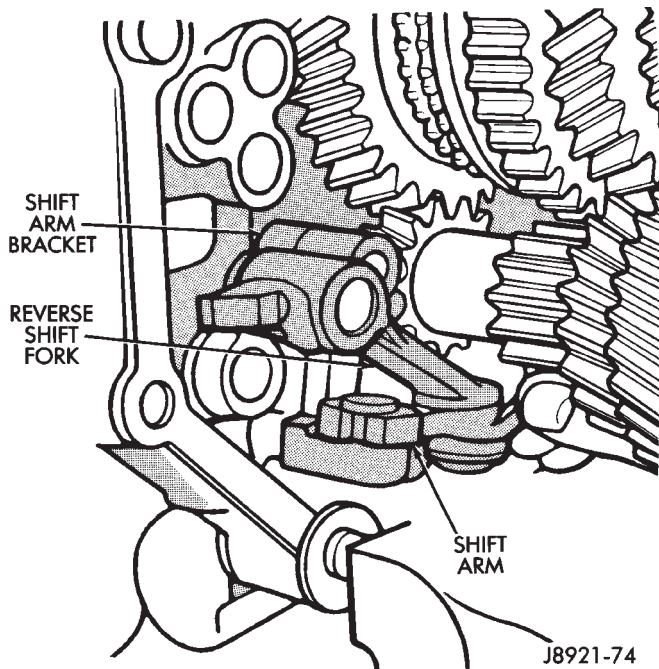

Fig. 67 Installing Reverse Shift Arm
(1) Install reverse shift arm. Then seat shift fork in bracket (Fig. 67).